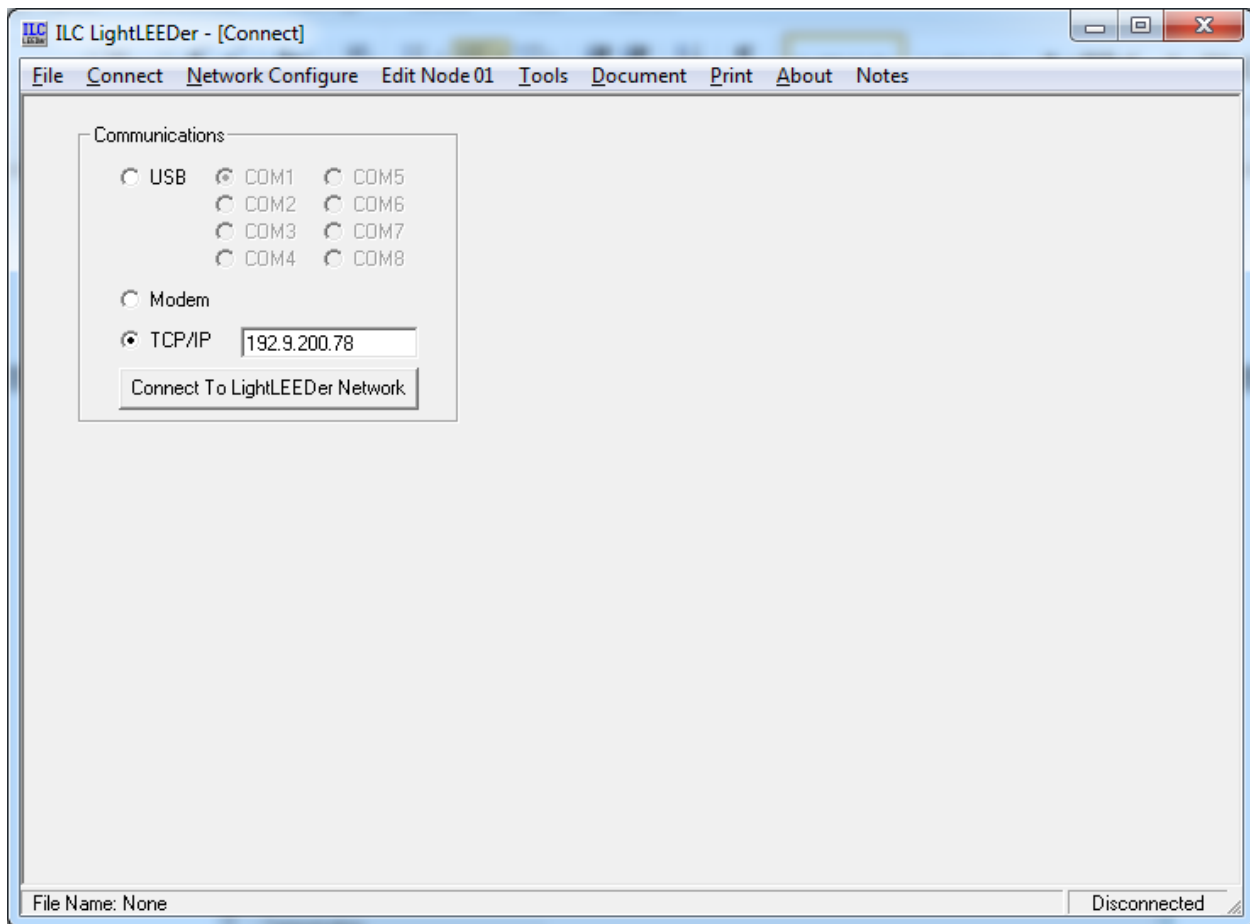

Figure 4
- To connect to the panel(s) using the LightLEEDer Pro software open the program, from the communications screen, select “TCP/IP”, enter the IP address, and press the “Connect to LightLEEDer Network” button as shown in Figure 4.